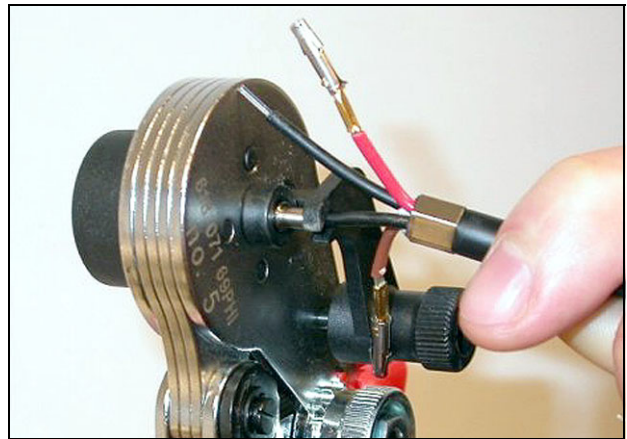

figure 22.23: Crimping ferrules (1)
- 21 Insert a plastic optical fiber into the ferrule in the spring-loaded stop of the POF positioning tool (see figure 22.23).